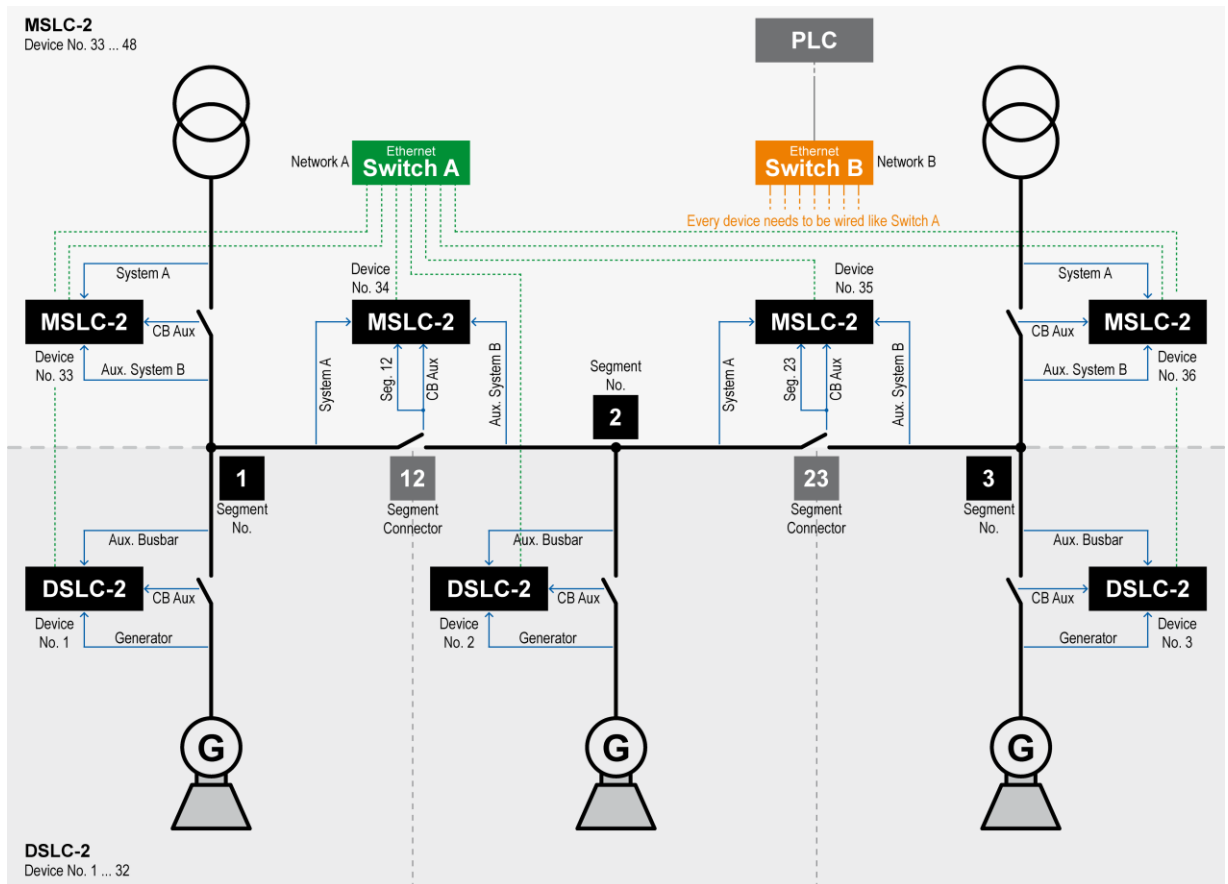

Figure 3-100: Example of an online diagram with according network
6. Draw the switches and its networks for Ethernet channel A and B, if used; in your online diagram (refer to Figure 3-100).